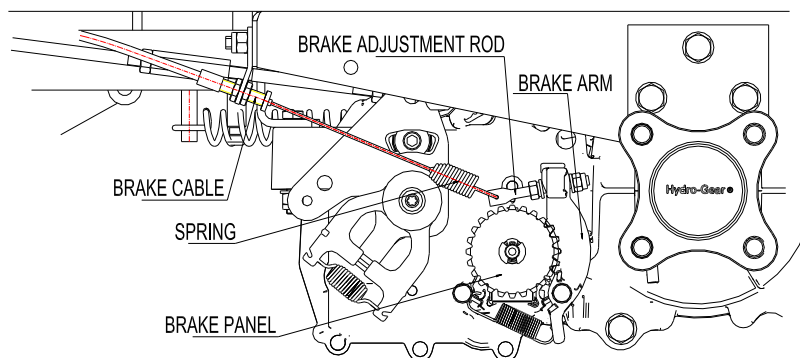

FIG 8 Brake Adjustment
- c) See FIG 8. Gears in the brake arm meshed into the gears of the brake disk. Adjust the nut on the spring adjustable lever. Ensure that the spring has an extension of 1/2" (12mm) when it is in the free state. Use the same method to adjust the brake adjustable lever.